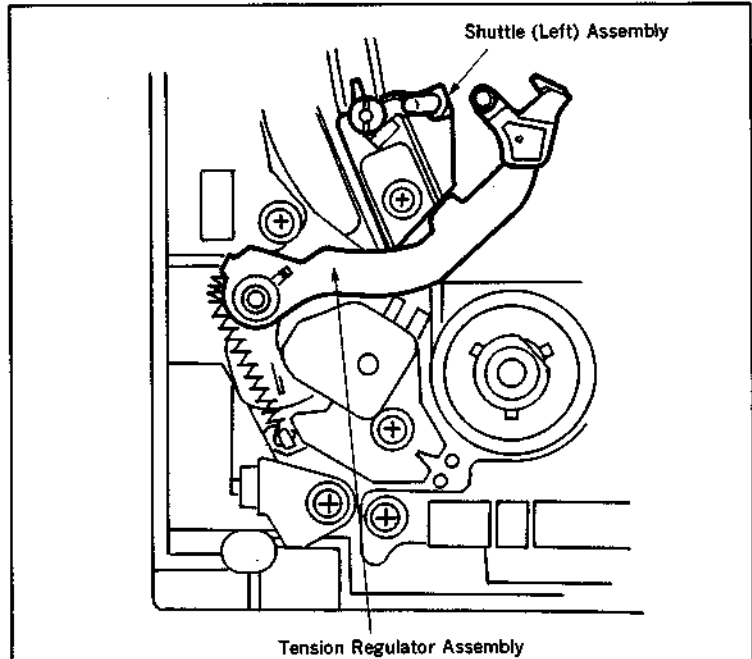

Fig. 3
- ① The tension regulator ass'y and shuttle (left) ass'y must be in the position shown in Fig. 3.